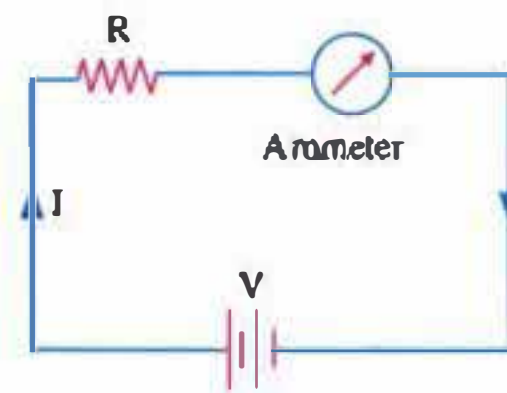

Fig. 1.6
In circuits energised by dc voltage sources, there exists a definite relationship between the current (I) that flows through a resistance (R) and the voltage (V) applied across the resistance (Fig. 1.6). This relationship is called Ohm's law and may be expressed by the equation.